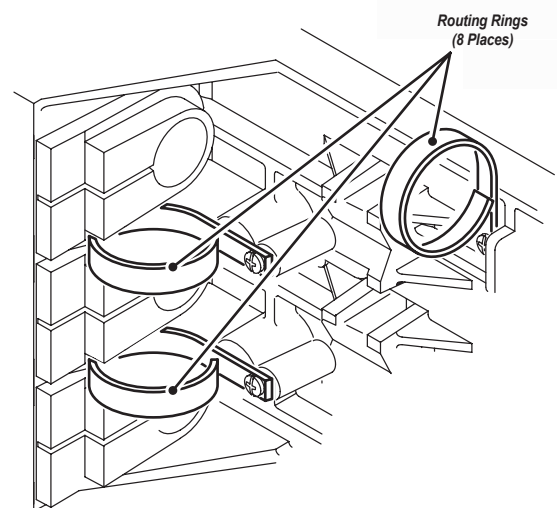

FIGURE 11—Locating Fiber Routing Rings.
7.04 Fiber routing rings and channels are provided for ease of fiber bundle access and storage. Two (2) storage rings are provided on each end and two (2) channel storage areas are provided, one on top, one on the bottom. Refer to Figures 11 and 12.